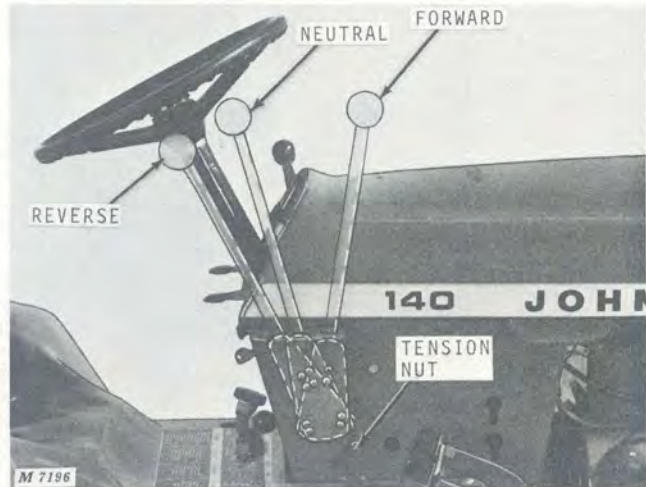

Fig. 6-Checking Control Lever Travel
6. With the tractor still blocked up and engine running, move control lever forward out of neutral. Check the distance that lever travels before wheel rotates, Figure 6. Follow the same procedure for reverse.